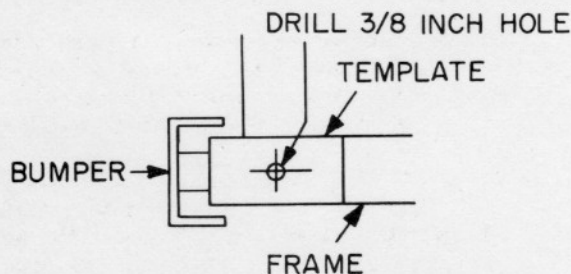

Figure 12. Front Frame Drilling
1. Locate and drill one 3/8-inch hole on each side of the frame, using the template provided. See Fig. 12.